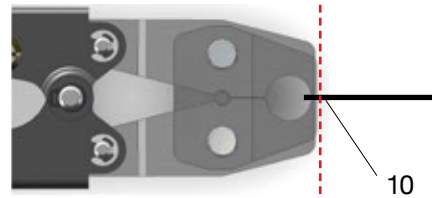

Fig. 10: NO-GO Gauge Pin “must not” pass jaw tips. Discard tool if NO-GO gauge pin passes.
3. If the “Pin” passes into the opening beyond the jaw tips (Fig. 10), the tool is no longer useable! It will not make crimps that conform to the specification and must be discarded.